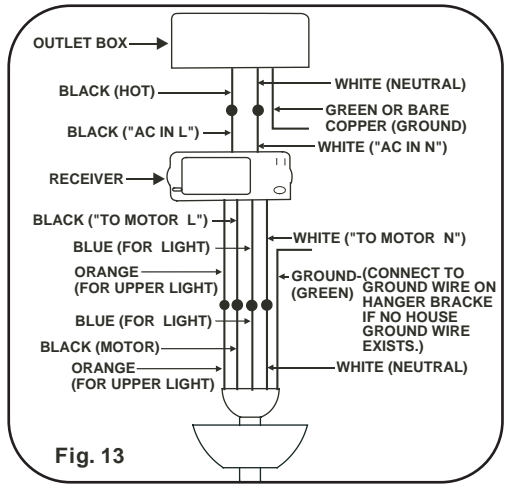

Fig. 13
NOTE: If your ceiling fan features an UP Light: Connect the ORANGE wire from the fan to the ORANGE wire marked "For Up Light" from the Receiver. Otherwise disregard this step and proceed to secure all wire connections with the plastic wire nuts provided. (Fig. 13)
Step 3. Receiver to House Supply Wires Electrical Connections: Connect the WHITE wire (Neutral) from the outlet box to the WHITE wire marked "AC in N" from the receiver. Connect the BLACK wire (Hot) from the outlet box to the BLACK wire marked "AC in L" from the receiver. Secure all wire connections with the plastic wire nuts provided. (Fig. 13)
Step 4. If your outlet box has a GROUND wire (Green or Bare Copper) connect this wire to the Hanger Ball and Hanger Bracket Ground wires. If your outlet box does not have a Ground Wire, then connect the Hanger Ball and Hanger Bracket Ground Wires together. Secure wire connection with the plastic wire nut provided. (Fig. 13)